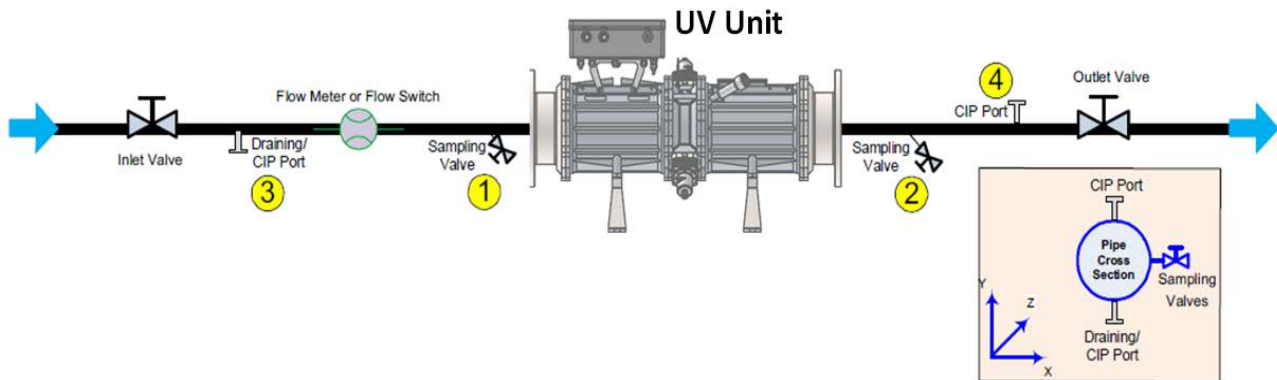

Figure 5-6: CIP Ports and Sampling Valves Orientation
Step 1. On the Inlet side, install the **Long welding ferrule** or **threaded male adapter (1)**.
- Position aseptic sampling valves (1 & 2 in **Figure 5-6** on page 5-46) **horizontally** (90^0) on the pipe center, within 50cm of the Unit.
- Weld the 1 inch **ferrule (1)** clamp fitting at a horizontal orientation (3 or 9 o'clock).